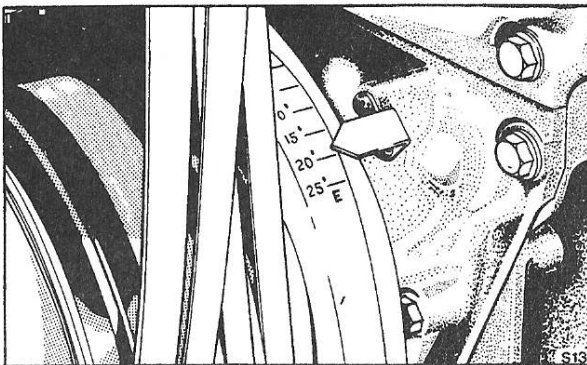

Fig. M19 Ignition timing pointer
6. Direct the stroboscope light onto the crankshaft damper and timing pointer (refer to fig. M19). Slacken the distributor clamp bolt and adjust the distributor to set the timing at 25° B.T.D.C.